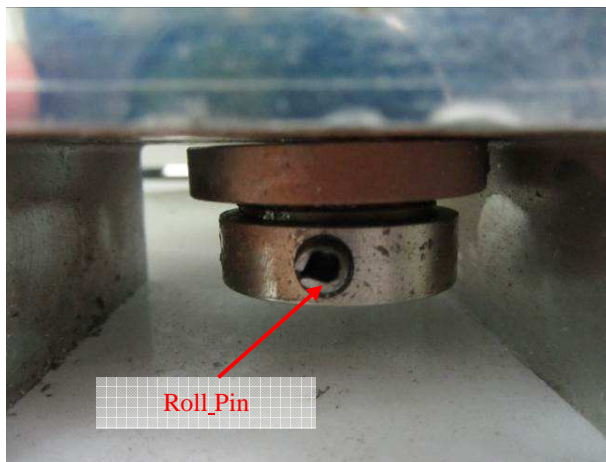

Figure 6
4. Using a 36mm spanner, loosen off the lower lock nut by turning it counter-clockwise. Using the same 36mm spanner, turn the top nut to enable you to view the roll pin at the base, as in figure 6.
5. Using a 6mm parallel pin punch and a hammer, knock the roll pin approximately 50% of the way out (see figures 6 and 7).